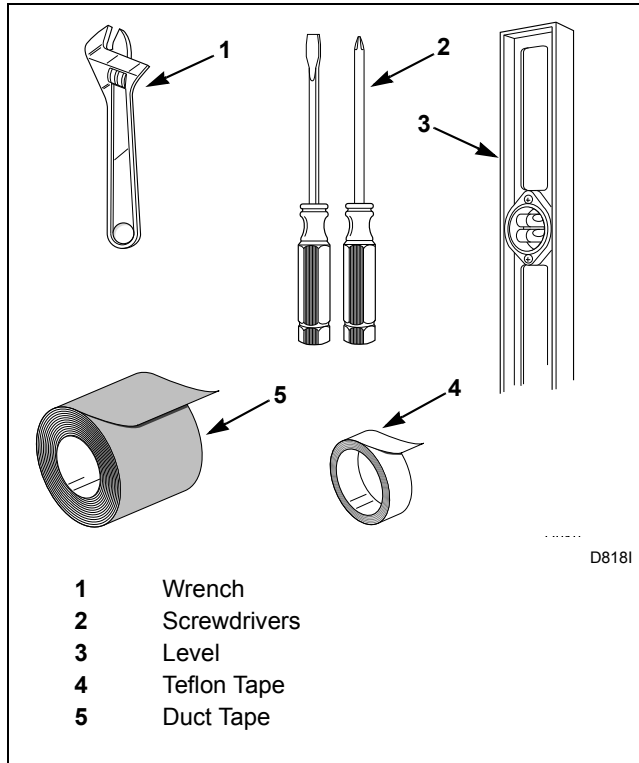

Figure 1
1. Open service door. Refer to *Figure 1*.